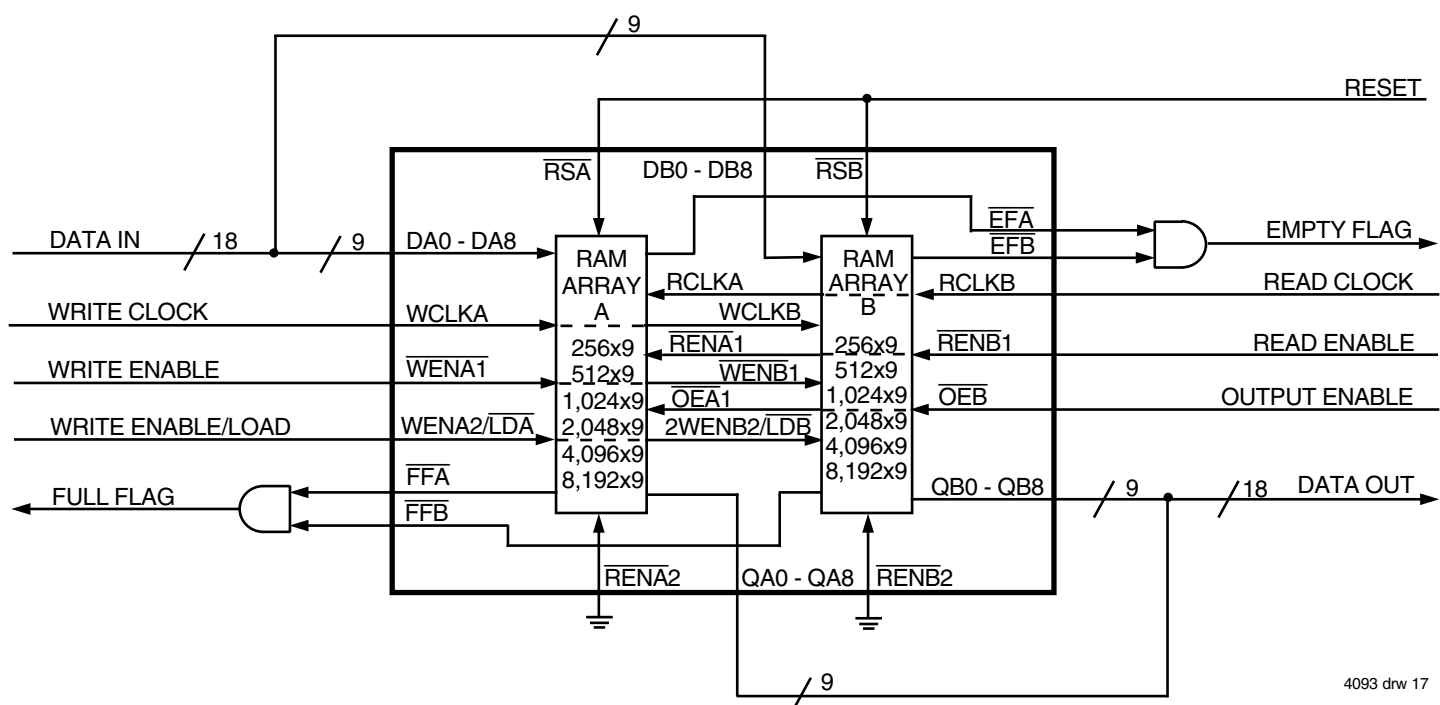

Figure 15. Block diagram of the two FIFOs contained in one IDT72V801/72V811/72V821/72V831/72V841/72V851 configured for an 18-bit width-expansion
**WIDTH EXPANSION CONFIGURATION** — Word width may be increased simply by connecting the corresponding input control signals of FIFOs A and B. A composite flag should be created for each of the end-point status flags  $\overline{\text{EFA}}$  and  $\overline{\text{EFB}}$ , also  $\overline{\text{FFA}}$  and  $\overline{\text{FFB}}$ . The partial status flags  $\overline{\text{PAEA}}$ ,  $\overline{\text{PAFB}}$ ,  $\overline{\text{PAEA}}$  and  $\overline{\text{PAFB}}$  can be detected from any one device. Figure 15 demonstrates an 18-bit word width using the two FIFOs contained in one IDT72V801/72V811/72V821/72V831/72V841/72V851. Any word width can
When these devices are in a Width Expansion Configuration, the Read Enable 2 ( $\overline{\text{RENA2}}$  and  $\overline{\text{RENB2}}$ ) control inputs can be grounded (see Figure 15). In this configuration, the Write Enable 2/Load ( $\text{WENA2}/\overline{\text{LDA}}$ ,  $\text{WENB2}/\overline{\text{LDB}}$ ) pins are set LOW at Reset so that the pin operates as a control to load and read the programmable flag offsets.